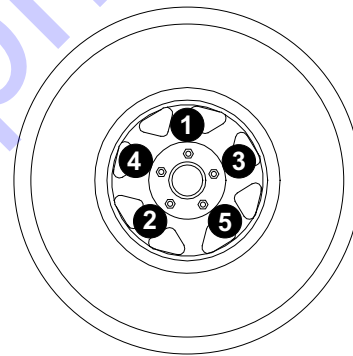

Figure 3-11. Tightening Wheel Lugs
7. See **Figure 3-11**. Check the wheel lugs. Tighten or replace any lugs that are loose or missing. If a tire has been removed for axle service or replaced, tighten the lugs, in the order shown, to the following specifications: